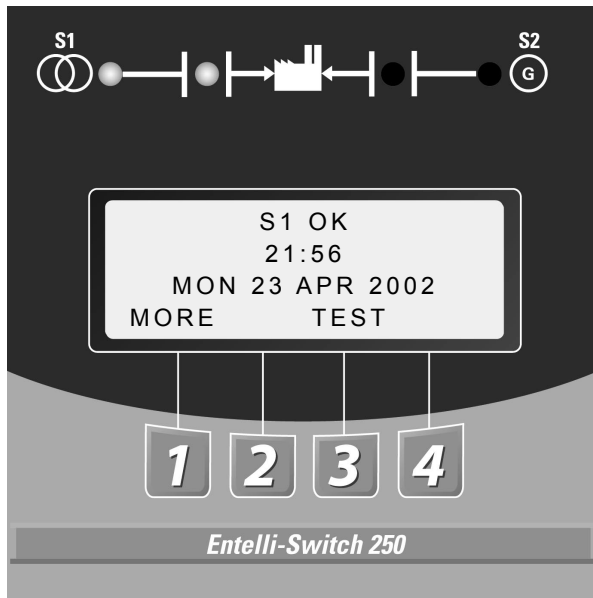

Figure 5 – LCD and keypad
After all options and accessories are checked and verified, follow these steps to set up the ATS. Refer to Entelli-Switch 250 display *Figure 5*. The annunciation LEDs illuminate to indicate (1) source availability, (2) ATS position, and (3) Entelli-Switch 250 control function (timing).